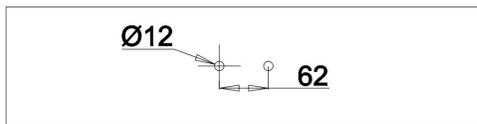
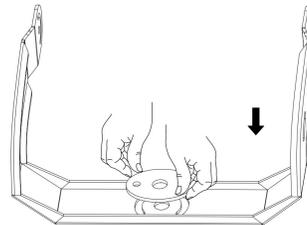

FIG.16
FIG.17
- 1) Drill two holes on the plane, diameter 12mm, 62mm distance, put fix plate on the bracket. See FIG.16 and See FIG.17.